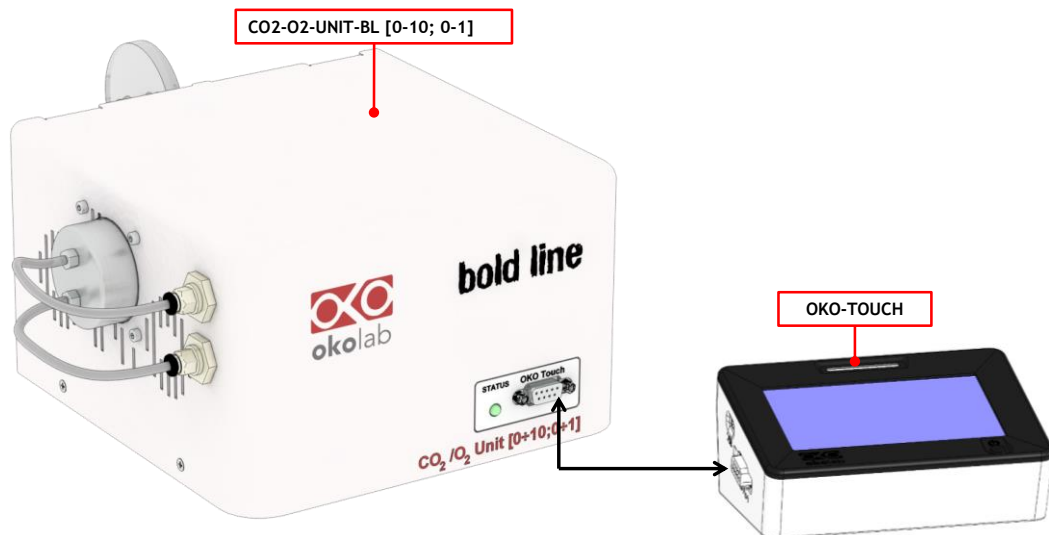

Figure 19. OKO-TOUCH Connection.
7. Connect the touch screen interface OKO-TOUCH to CO2-O2-UNIT-BL [0-10; 0-1] with the RS232 serial cable as illustrated in Figure 19.